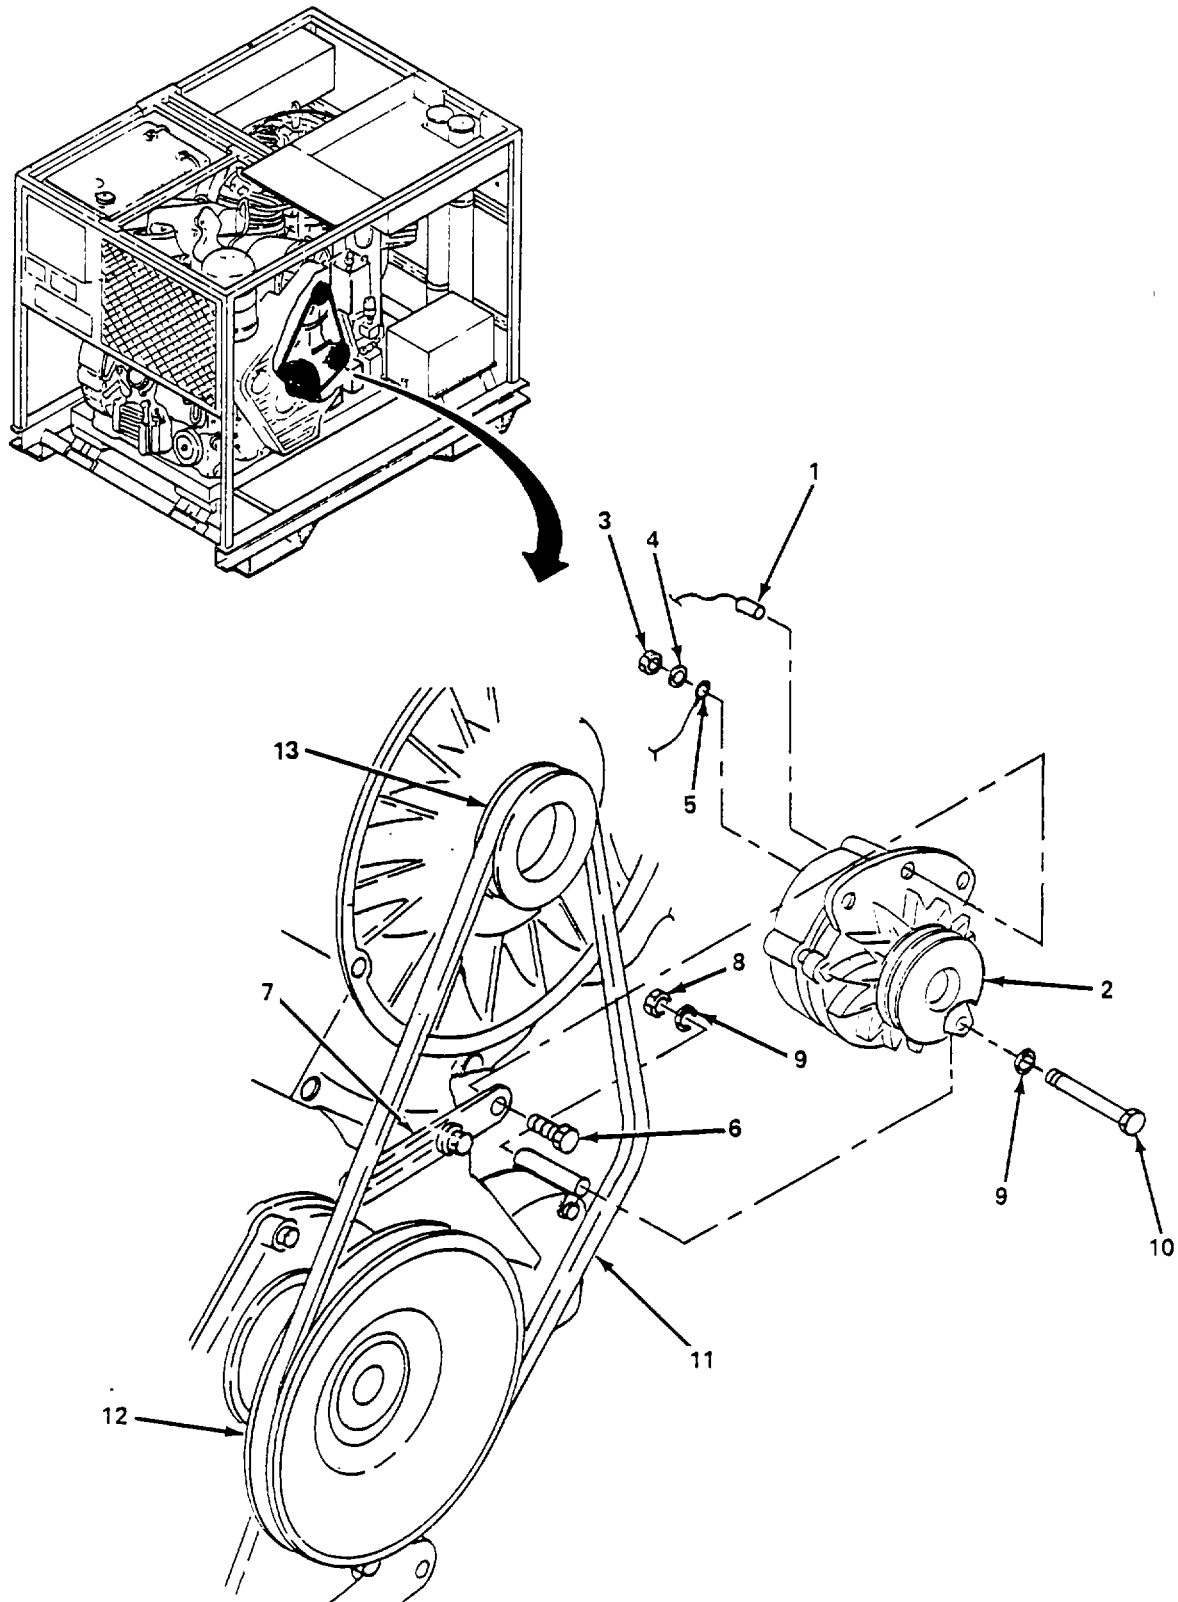

Figure 4-57. Alternator, Replace.
c. Replace. (figure 4-57)
- (1) Remove wire (1) from alternator (2).
- (2) Remove three nuts (3), lockwashers (4), tag and remove wires (5) from alternator (2).
- (3) Remove bolt (6), securing alternator (2) to clamping plate (7).
- (4) Remove nut (8), two washers (9), and bolt (10) and remove alternator (2).
- (5) Install alternator (2) and secure with bolt (10), two washers (9), and nut (8) but do not fully tighten.
- (6) Ensure belts (11) are properly positioned.
- (7) Install bolt (6) but do not fully tighten.
- (8) Adjust belt tension so that a firm push midway between engine pulley (12) and blower pulley (13) will depress belts (11) approximately 0.50 - 0.75 in. (1.27- 1.90 cm).
- (9) Tighten nut (8) and bolt (6).
- (10) Install wires (5) as tagged and secure with three nuts (3) and lockwashers (4)